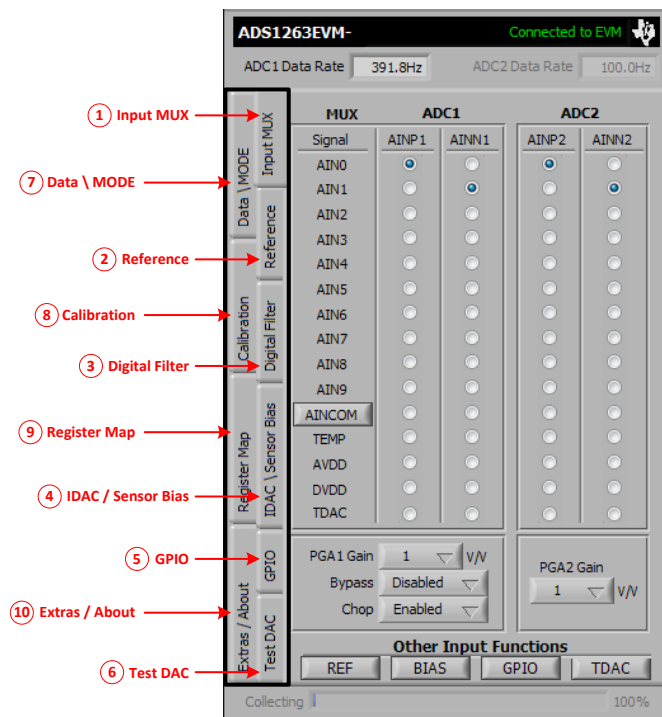

Figure 15. ADS1262EVM Plugin Tabs
- Configure the ADS126x. The ADS126xEVM plugin is divided into ten tabs, as shown in Figure 15. Clicking on a tab changes the displayed controls. The controls on each tab are described in Section 3.4.